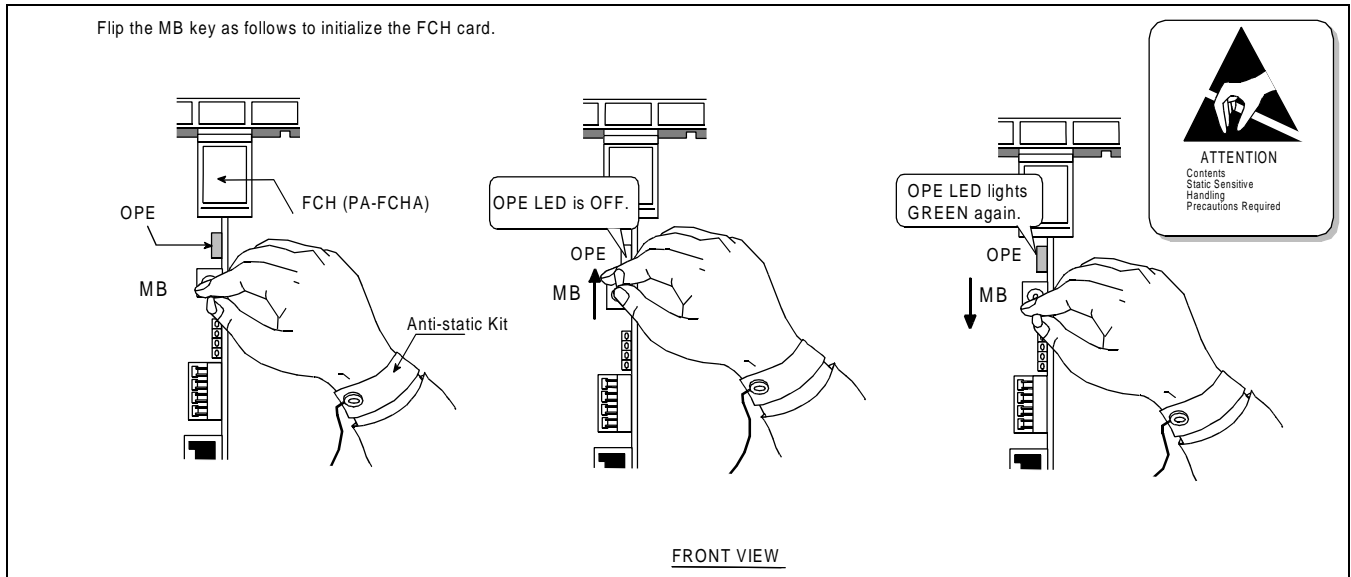

Figure 7-3 How to Initialize the FCH (PA-FCHA) Card
STEP 1: Initialize the indicated FCH (PA-FCHA) card using the MB key. (MB key: Down → Up → Down). Refer to Figure 7-3.
STEP 2: Initialize the indicated FCH (PA-FCHA) card using the MB key. See Figure 7-3 "How to Initialize the FCH (PA-FCHA) card."
STEP 2: Initialize the FCH card using the MB key. See Figure 7-3 “How to Initialize FCH (PA-FCHA) Card.”
STEP 2: Initialize the FCH (PA-FCHA) card using the MB key. See Figure 7-3 “How to Initialize FCH Card.”
See Figure 7-3. When the LED on the FCH card lights green and the related system messages are not displayed anymore, monitor the system for a while. Otherwise, move to STEP 3.
See Figure 7-3. When the LED on the FCH card lights green and the related system messages are not displayed any more, monitor the system for a while. Otherwise, move to STEP 5.